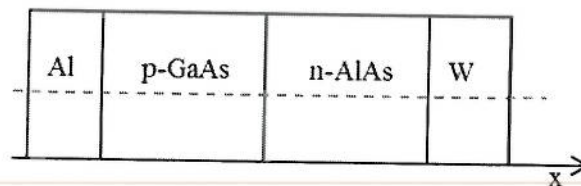

Figure 1.4: Heterojunction with metal contacts. All layers are long such that the different interfaces do not interact.
- h) Sketch the energy band diagram (E_c , E_v , E_F , E_G), along the dashed line, of the material system given in Figure 1.4. Take the semiconductor-metal interfaces into account. Al is aluminium, W is tungsten. The work function of p-GaAs is: $\phi = 4.75$ eV and of n-AlAs is $\phi = 4$ eV.